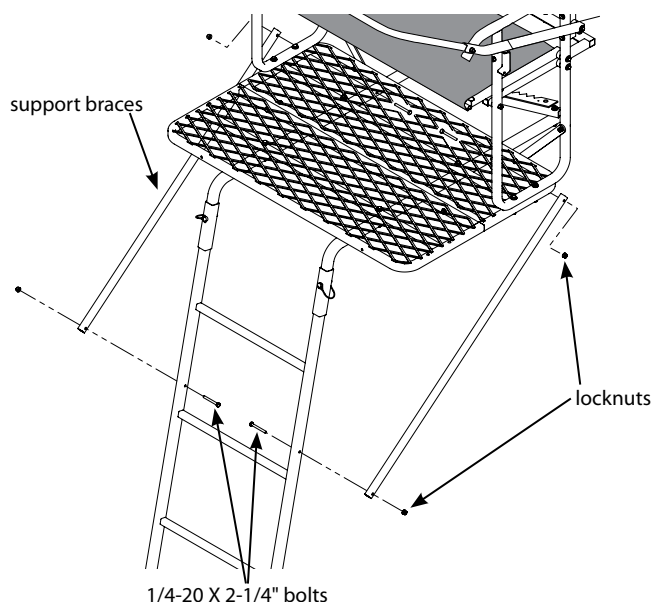
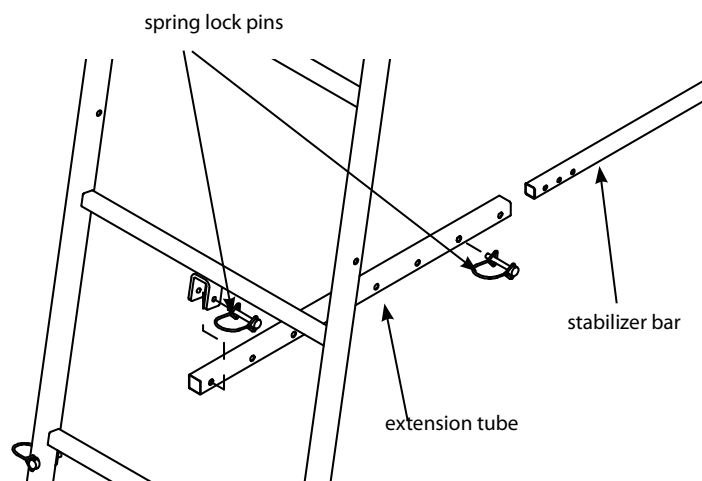

Figure 9
Figure 10
16. Attach the (2) support braces (2ML46) to the outside of platform J-pipes and top ladder section with mounting holes using (4) provided 1/4-20 x 2-1/4" bolts and locknuts. **SEE FIGURE 9. Tighten securely. Be sure not to over tighten or crush tubing when tightening!**
17. Attach the (2) provided 9" and (1) provided 36" camo foam pads to the armrests and shooting rail by wrapping around tubing and attaching Velcro together.
18. a. Attach the stabilizer bar extension tube (1ML23) to the second ladder section mounting bracket using (1) provided spring lock pin.. **SEE FIGURE 10.**
- b. Slide the stabilizer bar (L17) into the extension tube and attach the two pieces together using (1) provided spring lock pin. Spring lock pin must go through both the extension tube and stabilizer bar at appropriate hole to achieve desired distance from tree. Adjustment in length may be needed when ladder is uprighted later in instructions. **SEE FIGURE 10.**